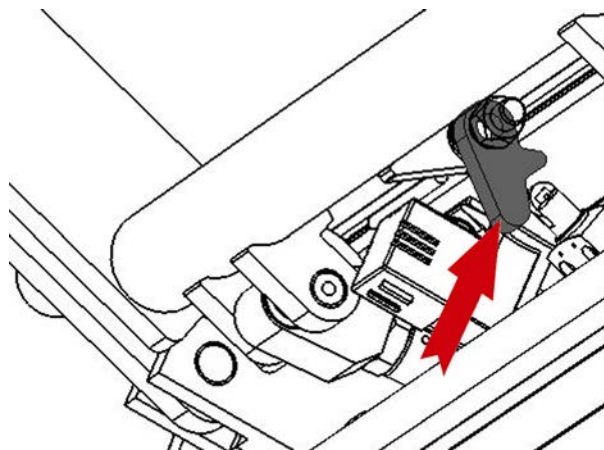
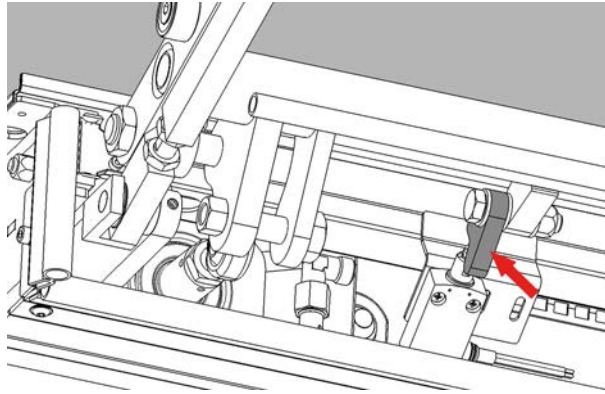

Figure 46: Adjusting the Switching Cam, View from Below (K70)
Figure 47: Adjusting the Switching Cam, View from Below (K90)
- ⇒ Adjust the switching cam by hitting it lightly with a hammer from below (see Figure 46 and Figure 47, page 66). In order to prevent damage to the switching cam, place a protective block (e.g. of wood or aluminium) between the hammer and switching cam.